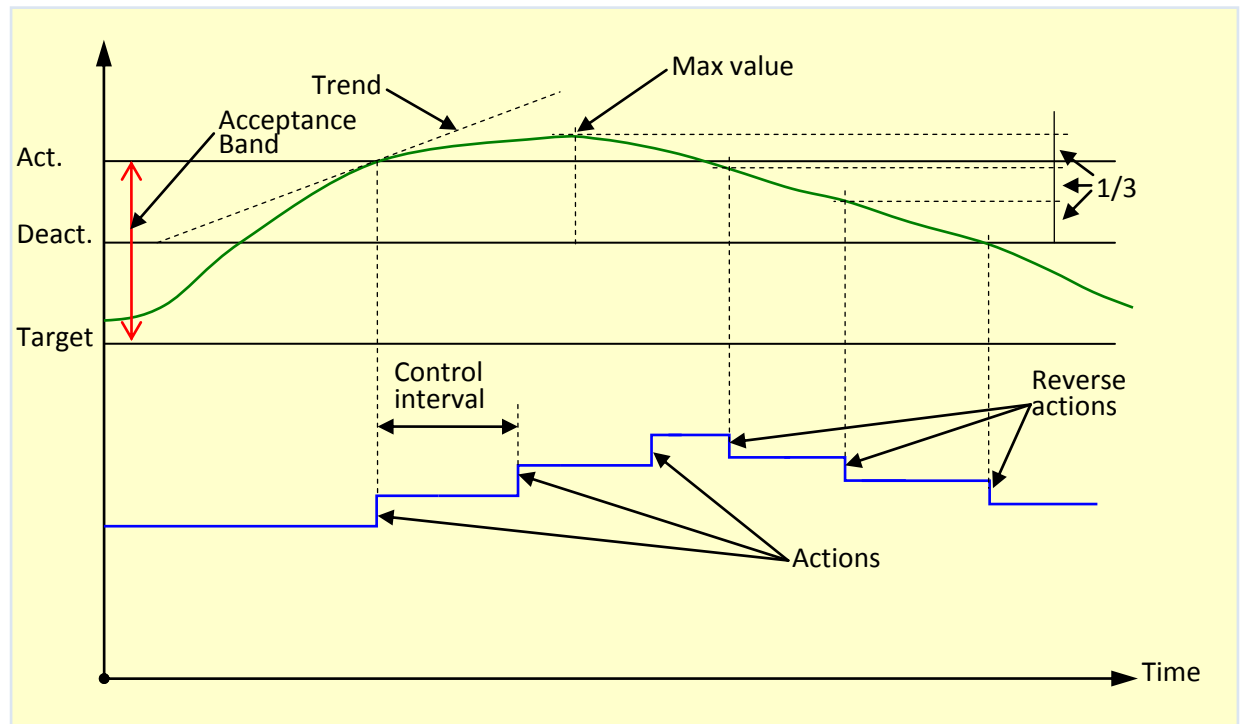

Fig. 44: FECA Stepwise reverse actions
- Selection of **Stepwise reverse actions** activates the stepwise reverse actions, where Reverse actions are divided into three steps and are executed at three different levels between Max. Value and Deact. value as seen in Fig. 44. Stepwise reverse actions is further explained in 12.4.6 under